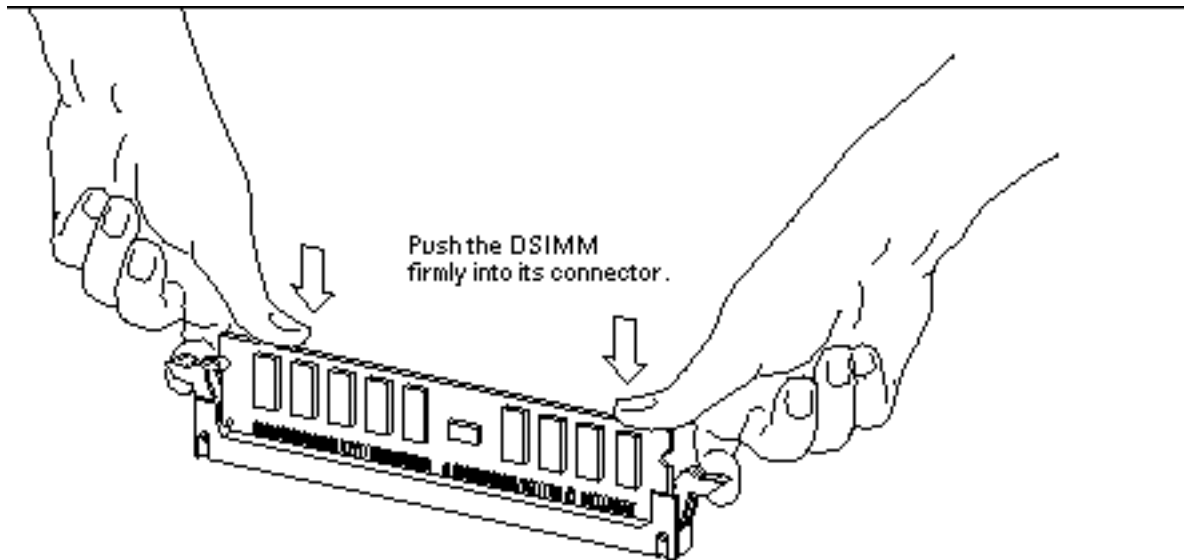

Figure 11-17 Installing a DSIMM
- 4. Place your thumbs as shown in Figure 11-17 and push the DSIMM firmly into its connector.**